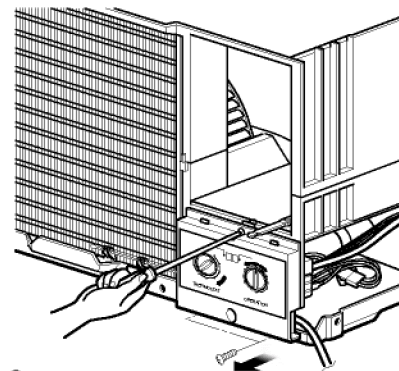

Figure 3
7. Re-install the components by referring to the removed procedure, above. (See figure 3)